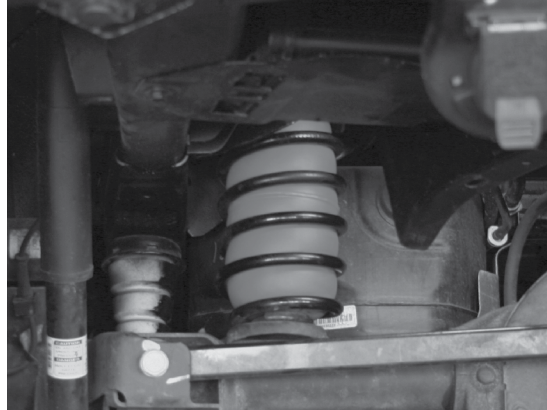

fig. 3
- Even though it may be perceived that the air spring cylinders work by pushing up and down on the upper and lower spring seats (they also do this), the “lifting or supporting” of the vehicle actually comes from the air spring cylinders, being inflated, slightly bulging in between the coil springs and “pushing or spreading” them thus helping support the vehicle’s sprung weight (Fig. 3). With this in mind, it is not necessary to fit the inside diameter of the steel spring exactly and it is recommended that the air spring cylinder be a little undersized. Do not put an air spring cylinder with a larger outside diameter in a smaller ID coil spring. This will likely cause the early failure of the air spring cylinder.